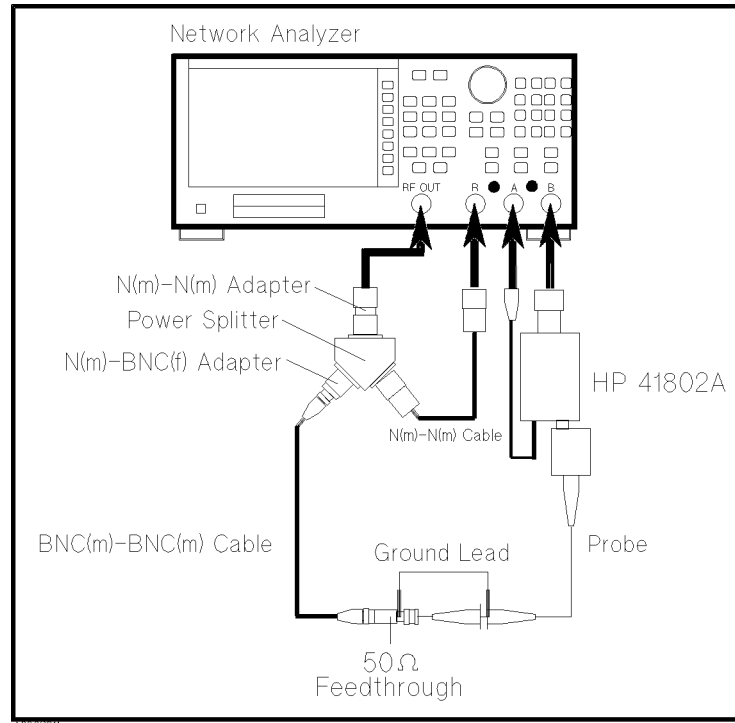

Figure 3-6. Probe Adjustment Setup Using a Network Analyzer—2
4. Change the connection as shown in Figure 3-6. Connect the ground lead firmly to provide good electrical bond.